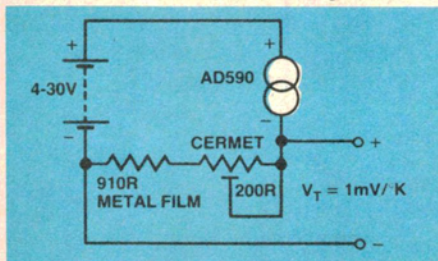

Figure 1. Simple thermometer with $\pm 2^{\circ}\text{C}$ accuracy.
The simplest circuit you could use is shown in Figure 1. This will give temperature directly in the Kelvin scale with a voltage/temperature relationship of $1 \text{ mV}/^\circ\text{K}$. Thus at a typical ambient temperature of $+25^\circ\text{C}$ (298°K), the output will be 0.298 V. The output can be 'trimmed' to the correct temperature (calibrated) at one temperature point by the 200 ohm cermet trimpot. This is a 'one trim' circuit. With the AD590J, accuracy will be $\pm 2^\circ$ over the range from 0° to 100°C .
1. Calibration error and non-linearity of the AD590. This factor is easily calculated by referring to the table from the Analogue Devices applications note (Table 1), reproduced here. The 'Number of Trims' column refers to the type of circuit used with the AD590J. For the ETI-153, use the 'Two Trims' data. For the simple Kelvin circuit (Figure 1) use the 'One Trim' data.